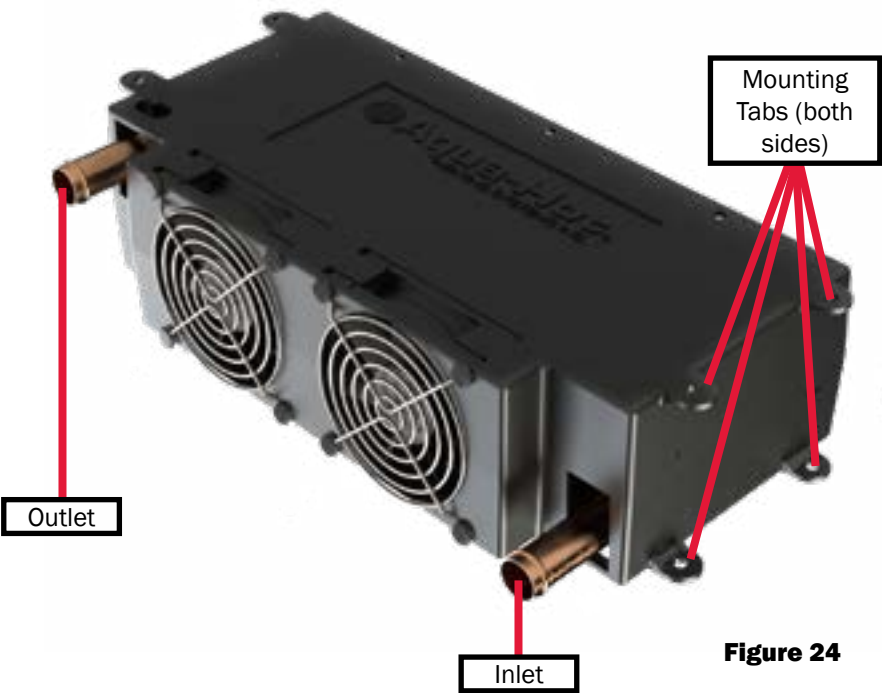

Figure 24
- The antifreeze and water heating solution must flow in through the bottom of the heat exchanger, and out the top (reference Figure 24).
2. Mount each heat exchanger permanently into place. There are 4 tabs on both sides - see Figure 24.